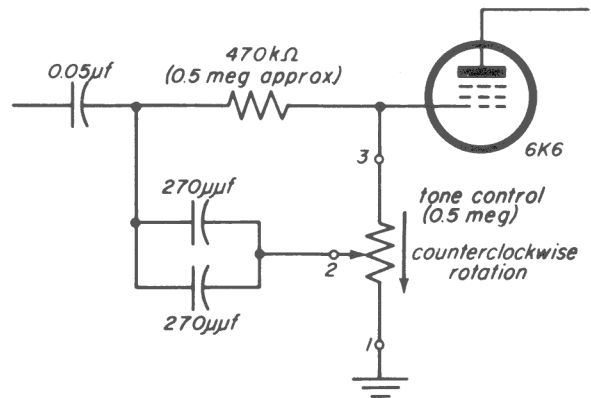

Fig. 35-11
A schematic of the circuit is shown in Fig. 35-11. All signals but the treble divide in the voltage divider, the 470 k-ohm resistor in series with the resistance of the control. With the moving arm at terminal 3 of the control, treble is shunted past the 470 k-ohm resistor via the 270- μ f capacitors. In this position, treble signal arrives at the grid of the 6K6 in greater strength than bass and mid-range signal—treble boost. When the arm is at terminal 1 of the control, treble is grounded out via the 270- μ f capacitors while bass and mid-range signal remain unchanged—treble cut.
Step 4. The circuit is now wired as in Fig. 35-11. Tune in a station and listen to the treble increase in the clockwise position of the control and decrease in the counterclockwise position.